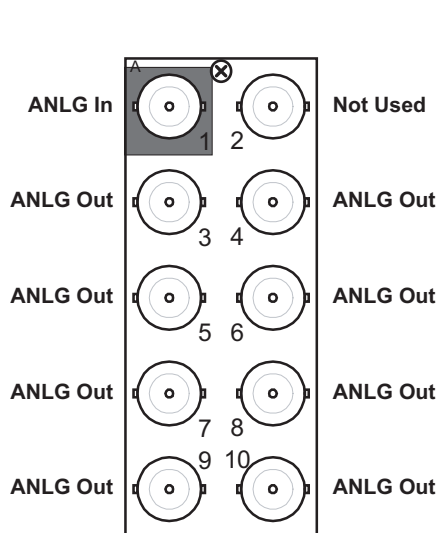

Figure 2.2 Cable Connections for the 8310AR-030 and 8320AR-030 Rear Modules
- **8310AR-030** Rear Module — Each rear module occupies one slot and accommodates one card in the DFR-8310 series frames. This rear module provides eight analog video outputs, and an analog video input. The input must be terminated on the VEA-8707A using **JP8**. Refer to **Figure 2.2** for cable connections.
- **8320AR-030** Full Rear Module — Each rear module occupies two slots and accommodates one card in the DFR-8321 or OG3-FR series frames. This rear module provides eight analog video outputs, and an analog video input. The input must be terminated on the card by setting **JP8** to **TERM**. Refer to **Figure 2.2** for cable connections.